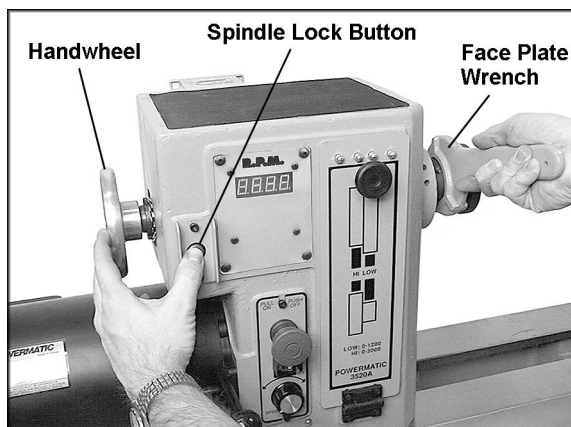
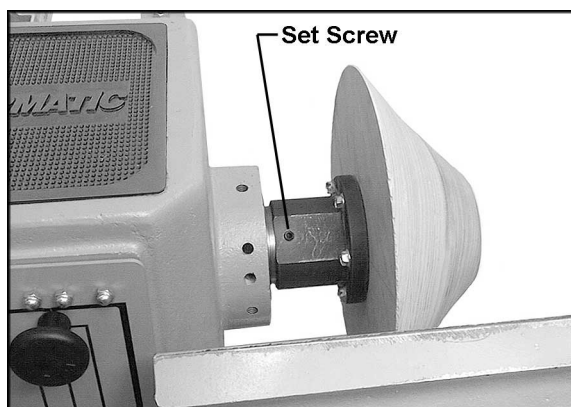

Figure 21
Figure 22
3. Push in the spindle lock button (Figure 21) and rotate the handwheel slightly until the spindle locks. Keep the spindle lock button pushed in.
⚠WARNING If at any time you will be *reversing* spindle rotation, make sure the two set screws in the face plate are tight! One of these is shown in Figure 22. Failure to do this may cause the face plate to loosen from the headstock spindle.
5. To *remove* the face plate, loosen the two socket set screws (Figure 22). Engage the spindle lock button and turn the face plate counterclockwise with the face plate wrench, as shown in Figure 21.
⚠WARNING When turning with a face plate, make sure both set screws on the face plate are tight (see Figure 22) before reversing the spindle. Failure to comply may cause the face plate to spin loose from the spindle.